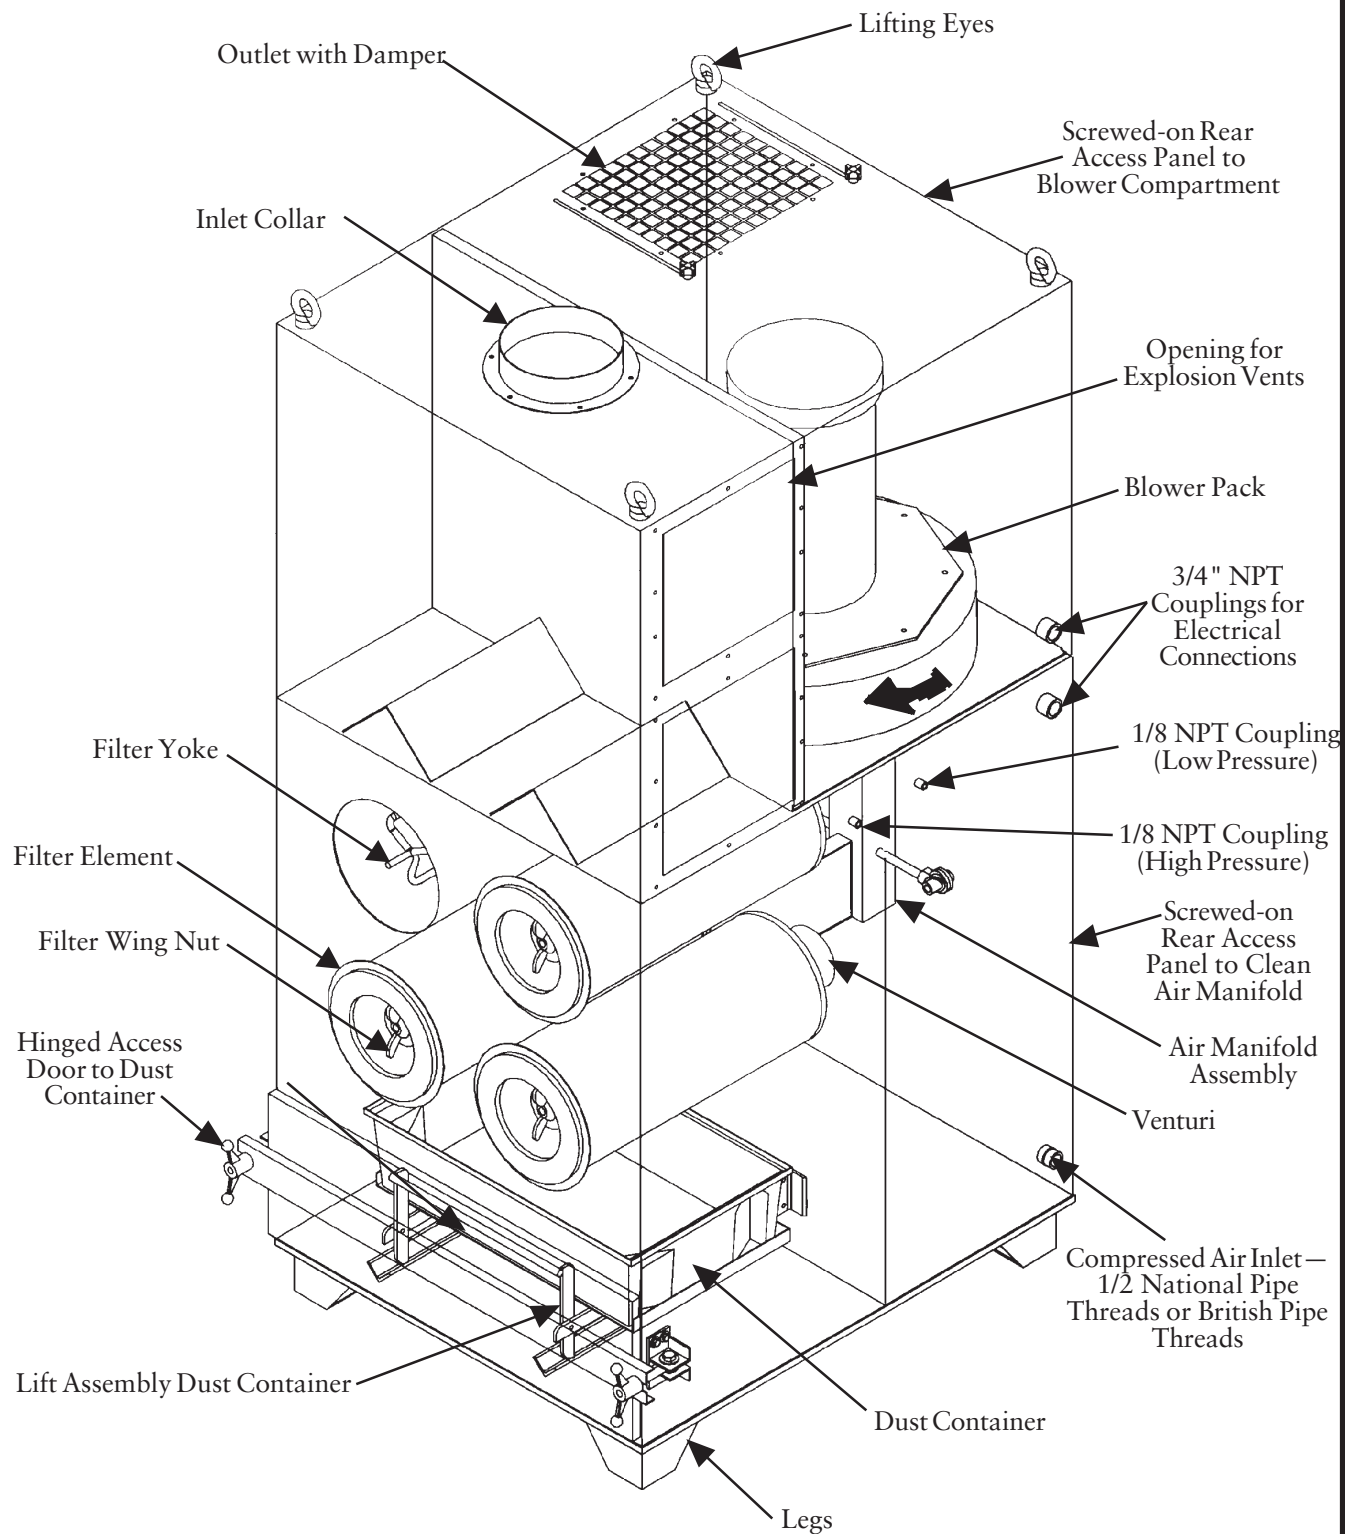

Figure 15
2.5.13 Explosion Vent Cabinet (See Figure 15 SDF-4 with Explosion Vents—Phantom View)
When explosion vents are furnished on an SDF, a special cabinet is required (see Figure 15 SDF-4 with Explosion Vents—Phantom View). Some features on this cabinet include:
- Two 3/4" couplings are provided on the outside of the collector for electrical wiring access (see Figure 15 SDF-4 with Explosion Vents Phantom View).